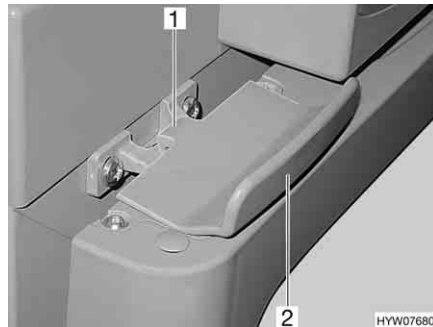

Fig. 184 Lock of refrigerator door, closed (Thetford)
- Open the refrigerator door at the handle (Fig. 184,2). The lock (Fig. 184,1) is released automatically.